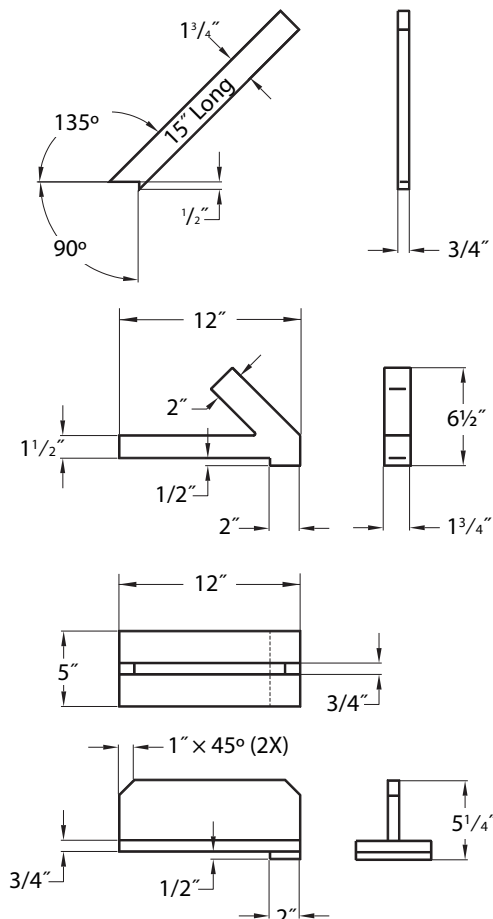

Figure 1 – Push sticks and push blocks
- During rip and rip-type cuts, workpiece must be held down on table and against fence with a push stick, push block, or featherboards, as applicable (see Figures 1 and 2). A push stick is a safety device used to push the workpiece through a cutting operation. Used most often when rip cutting thin workpieces.